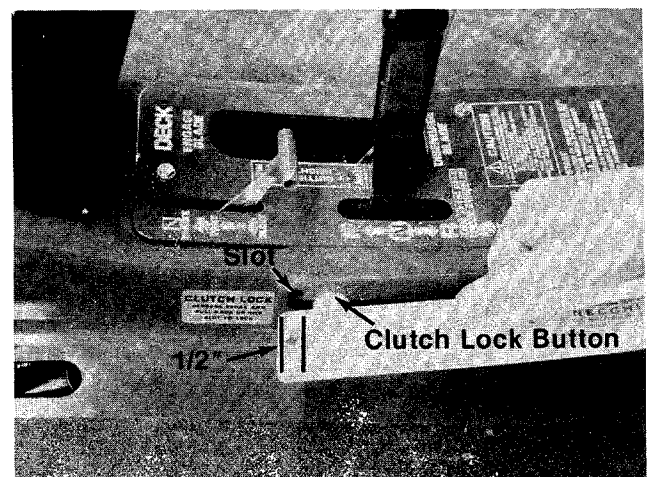

FIGURE 18.
1. With the engine off, release the clutch lock. See figure 18.
2. There should be 1/2" of space between the end of slot and clutch lock button. See figure 18.